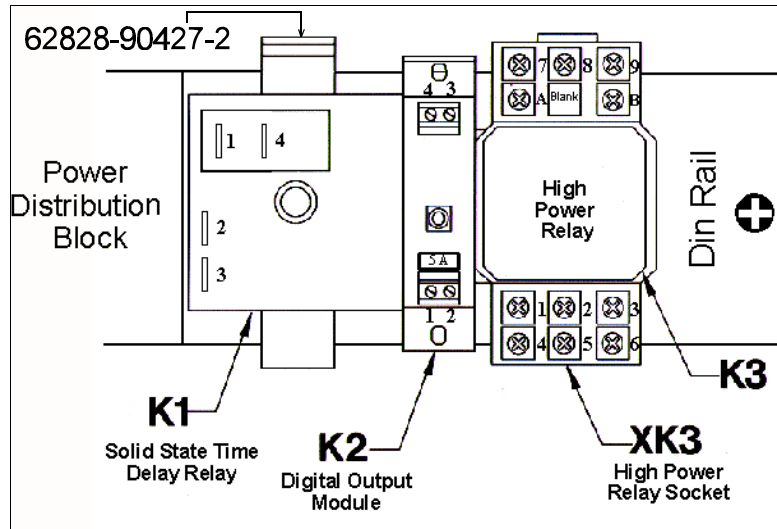

Figure 1 SSTDR, DOM, and UPSBC Assembly
6. Install the SSTDR bracket on the din rail to the right of the PDB. Refer to figure 1.
8. Slide the digital output module (K2) onto the din rail, with connectors 1 and 2, positioned facing out of the back of the ACU. Refer to figure 1.
13. Slide the XK3 module onto the din rail, with connectors 1-6, pointing out of the back of the ACU cabinet. Refer to figure 1.